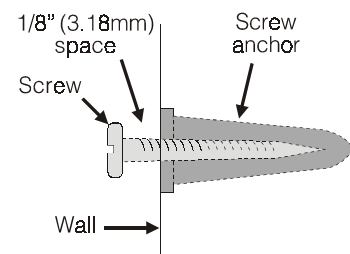

Figure 11. Screw anchor and screw in wall
- Screw the four enclosed screws into the anchors as shown in Figure 11, leaving the screw heads approximately $\frac{1}{8}$ inch (3.18mm) away from the wall.